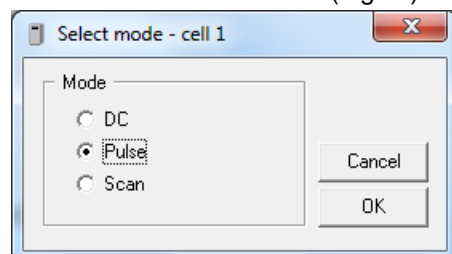

Fig. 19. Select mode window.
4. Set the parameters in the cell control window (Fig. 19).